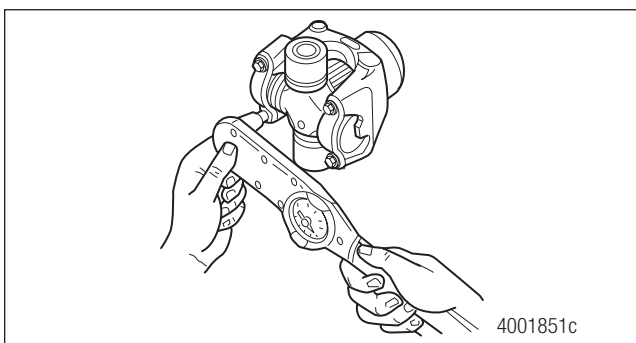

Figure 5.24
- Use a torque wrench to alternately tighten the capscrews to Meritor’s driveline torque specification. Figure 5.24.